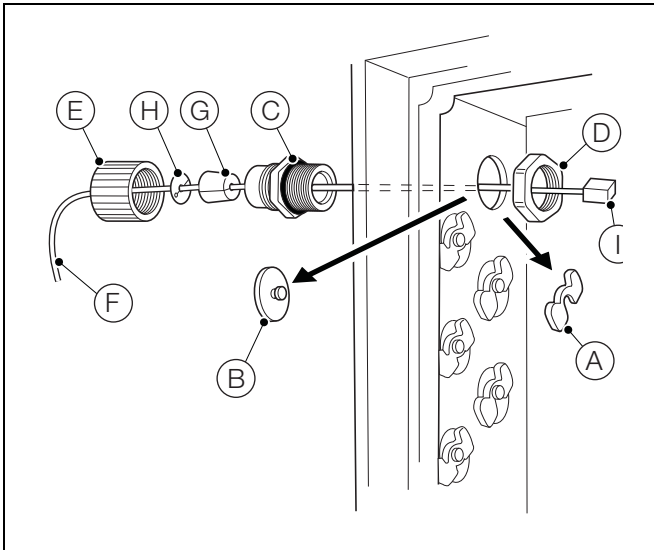
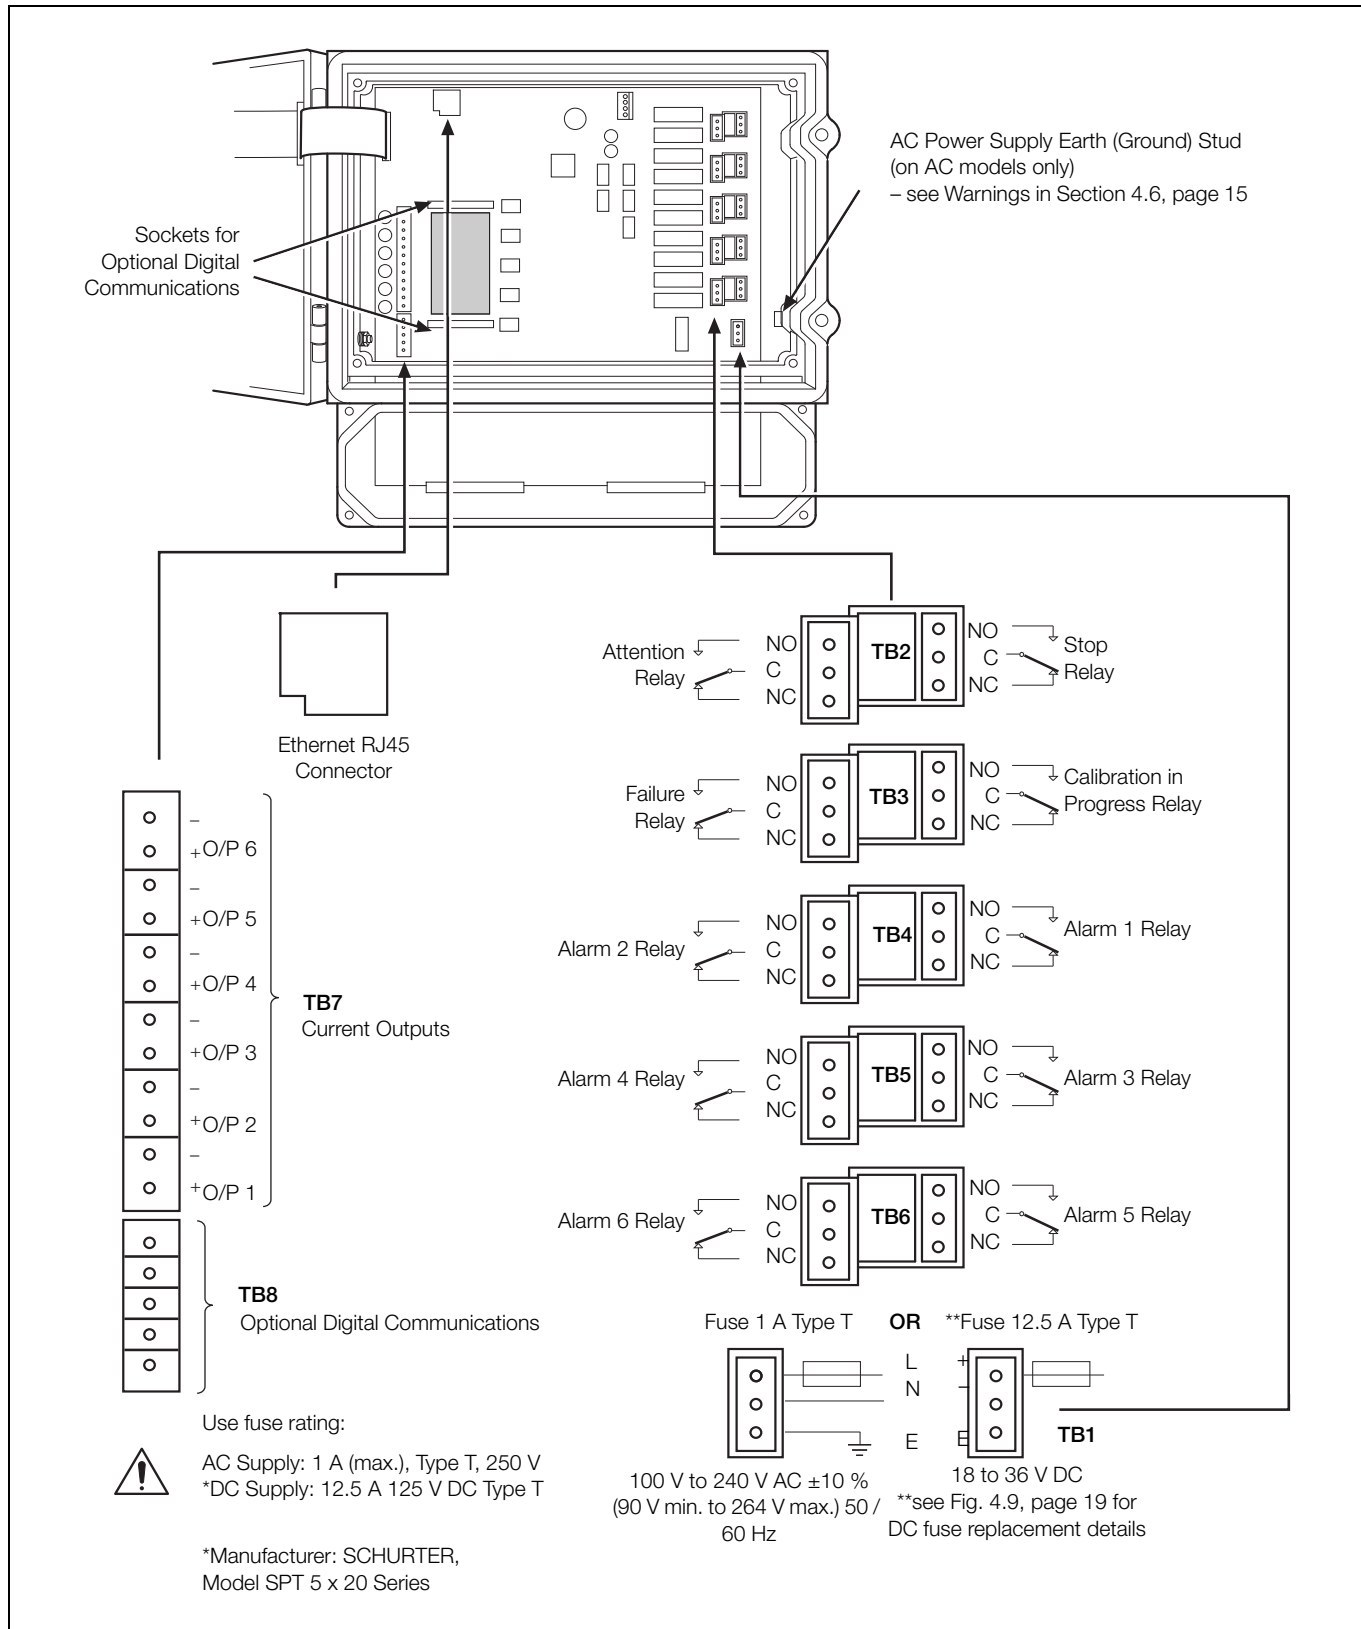

Fig. 4.6 Ethernet Connections
Fig. 4.7 Connections Overview
- Ensure the correct fuses are fitted – Fig. 4.7, page 18 for fuse details.
- Application board connection labels for the terminal blocks are identified in Fig. 4.7 on page 18.
7. Remove each terminal block connection plug (J) and, using a small flat-bladed screwdriver, make connections to each plug. Ensure wires are connected to the correct terminals – see Fig. 4.7, page 18.
9. Tighten gland nut (H) for each connection made.
11. When all the connections are made, replace the transparent cover plate (C) and secure using the four screws (B). Close the door to the electronics section and secure by turning the two door retaining screws (A) $\frac{1}{4}$ turn clockwise.
2. Referring to Fig. 4.6:
- a. Slide retaining clip (A) off blanking plug (B) and remove the blanking plug.
- b. Fit cable gland (C) and secure using nut (D).
- c. Remove gland cover (E) and route cable (F) through it.
- d. Fit the rubber split-bush (G) and split-washer (H) over the cable.
- e. Route the cable through cable gland (C) and into the enclosure case.
- f. Plug the RJ45 connector (I) into the Ethernet RJ45 connector socket on the application board (see Fig. 4.7, page 18 for location details) and tighten gland nut (E).